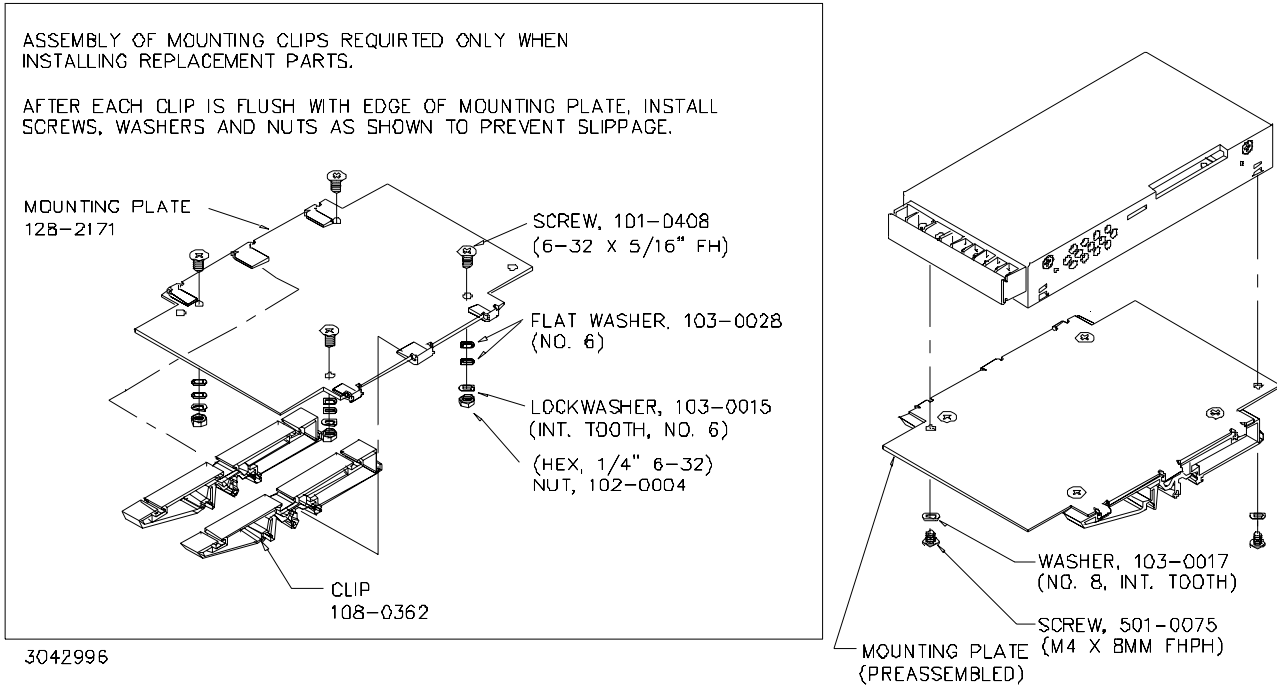

FIGURE 3. INSTALLING CLIPS ON POWER SUPPLY
NOTE: Clips are supplied preassembled on mounting bracket. To replace a mounting clip order the clip and bracket and assemble per Figure 3 detail.
- INSTALL MOUNTING BRACKET WITH CLIPS.** Attach mounting bracket to power supply using hardware supplied (see Figure 3).